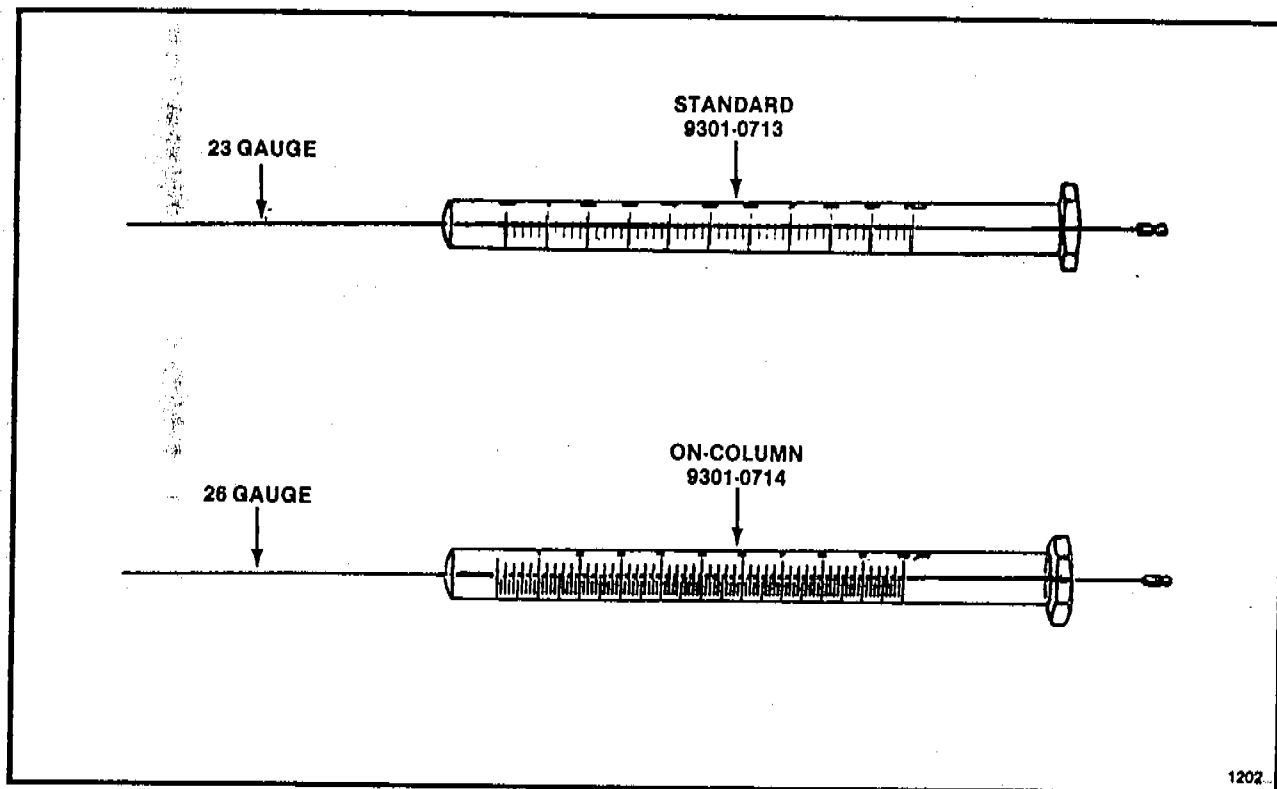

Figure 3-8. Syringes
2. Install the on-column syringe (see Figure 3-8). For first time syringe installation see Section 2, "Installing Syringes" for instructions. For syringe replacement, follow instructions inside the syringe access door.